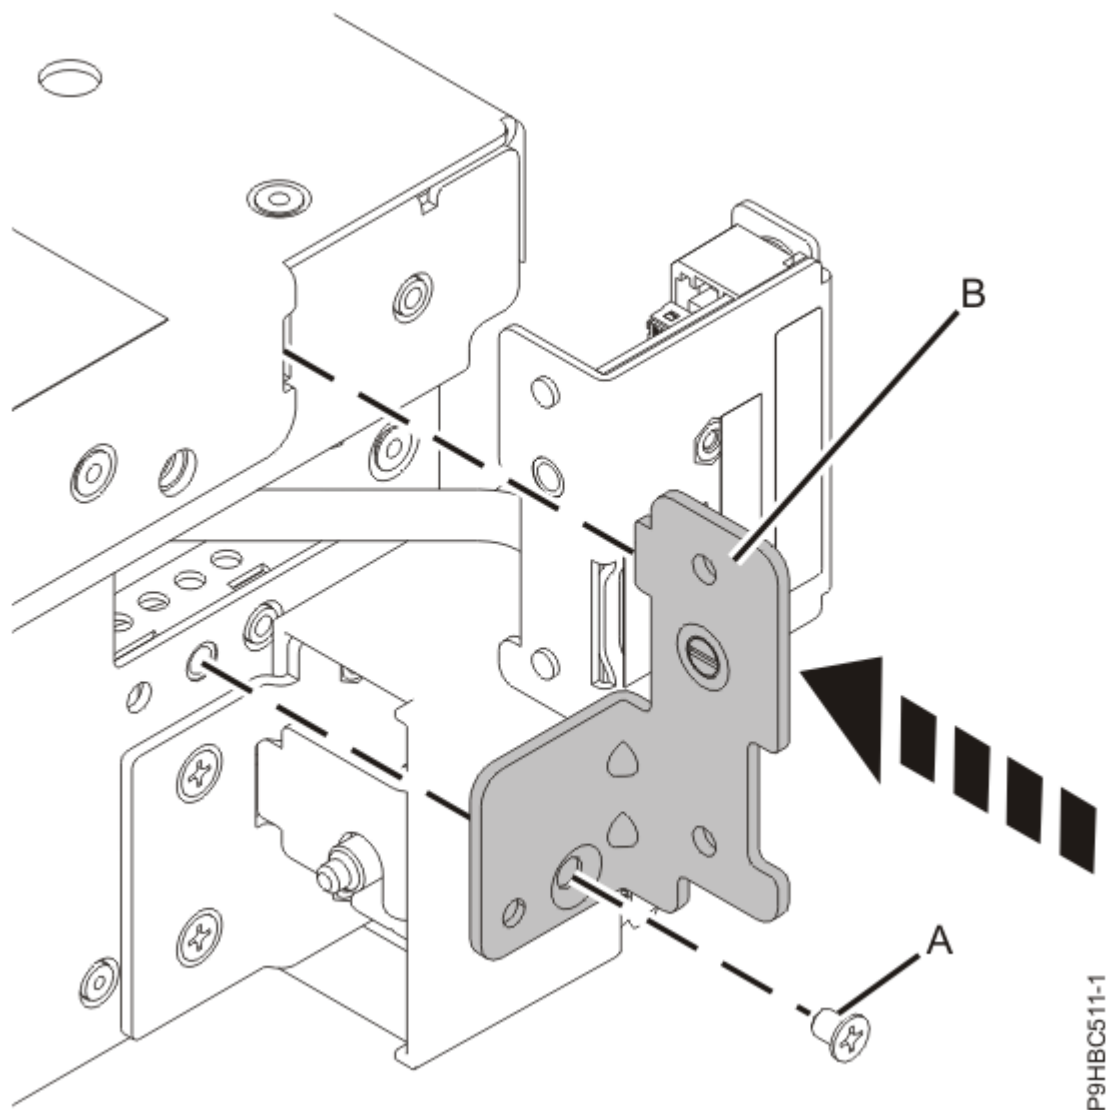

Figure 39. Replacing the control panel bracket
4. Attach the bracket **(B)** to the side of the system with screw **(A)** as shown in Figure 39 on page 43. Ensure that the bracket pin aligns with the bracket hole.